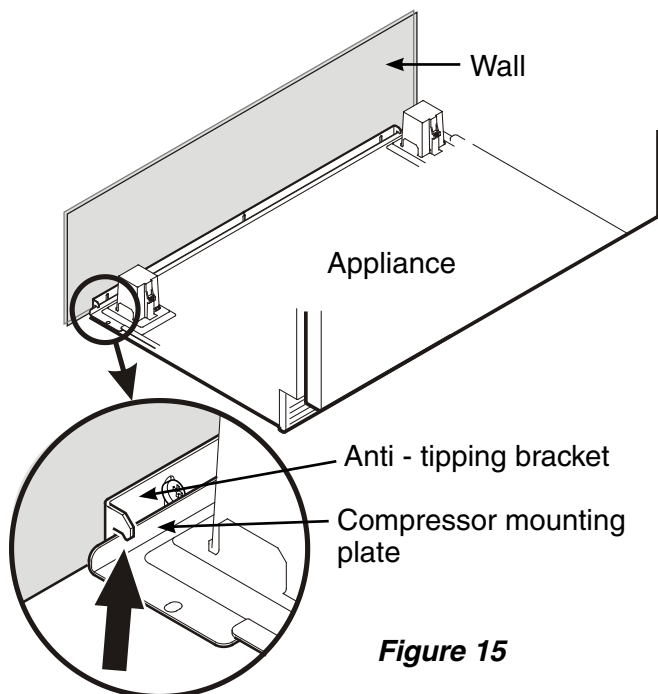

Figure 15
4. Push the appliance slowly to the back wall until the compressor mounting plate makes contact with the anti-tipping bracket (**Figure 15**).
To prevent the appliance from tipping forward the compressor mounting plate must have contact with the anti tipping bracket (**Figure 15**).